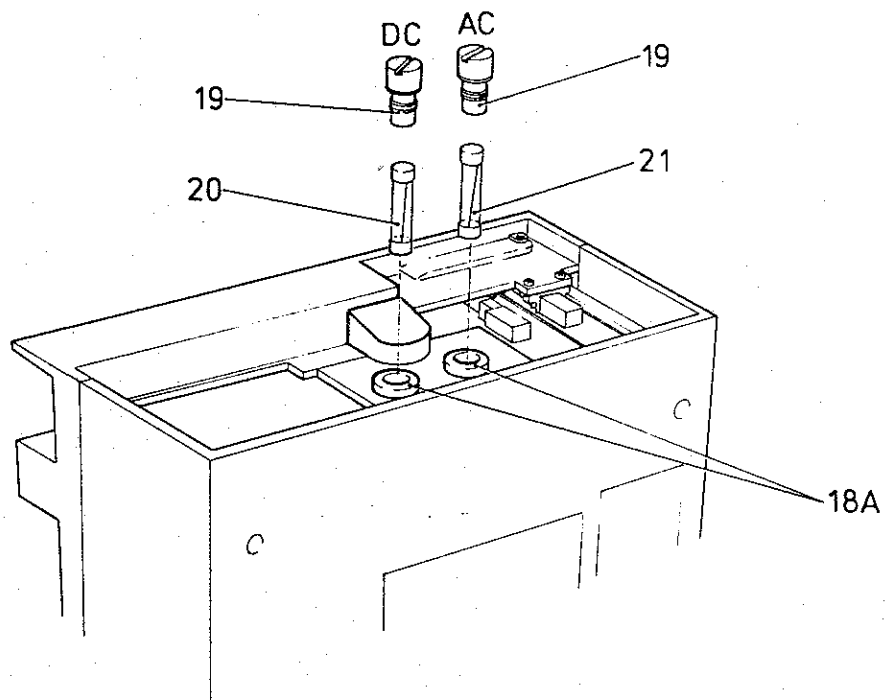

Fig. 11
Refer to Figure 11. Remove the relevant fuse carrier (item 19) from the fuse holder (item 18A) to provide access to the fuse (item 20 or 21).
Refer to Figure 11.